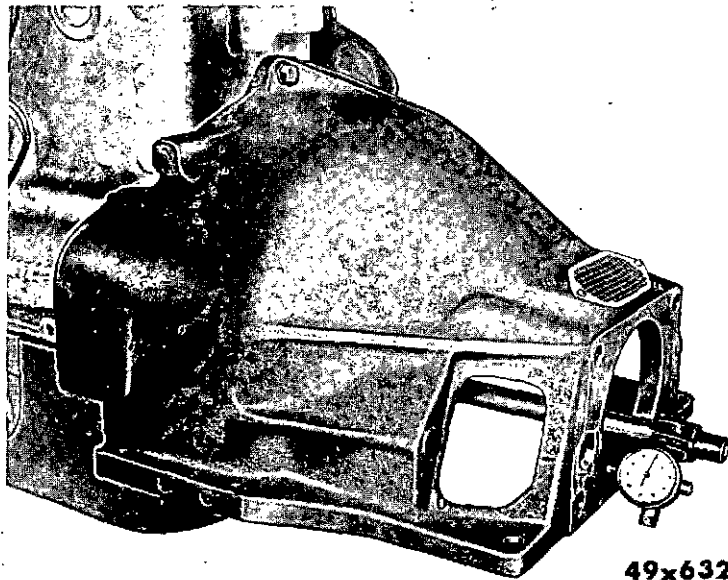

Figure 63 — Checking Rear Face Housing
4. Change the position of the dial indicator and check the rear face of the housing, as shown in Figure 63. This tolerance must be within .002 inch. Assuming that all burrs and dirt has been removed as described in step 1, this tolerance will no doubt be within the specified limits.